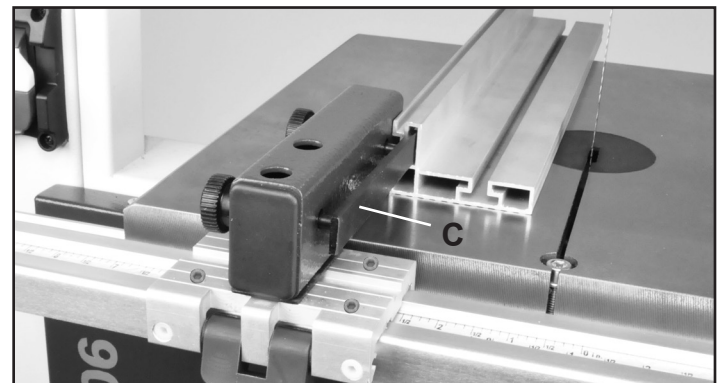

FIGURE 32
2. Slide the fence forward to remove it from the carrier's Locking Frame Bar (#105, FIG. 32, C).
2. Slide the fence forward to remove it from the carrier's Locking Frame Bar (#105, FIG. 32, C). Move the carrier on the front rail to the right side of the table and blade.